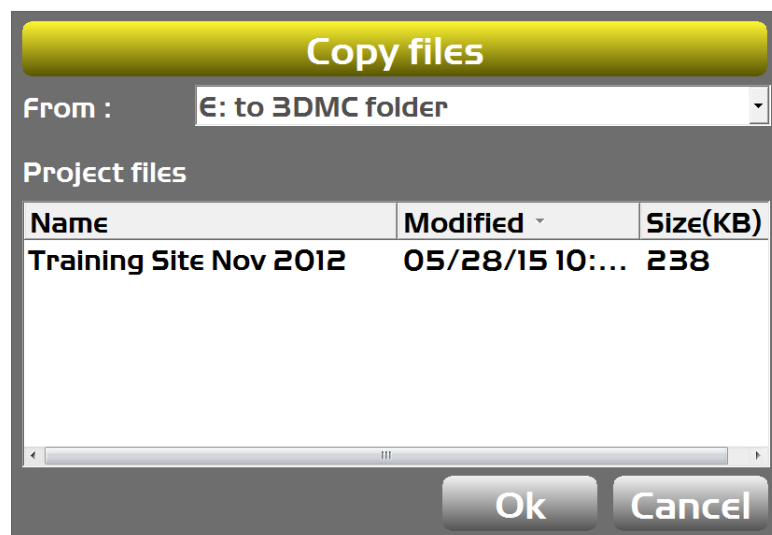

Figure 17: Select a File to Import
4. From the **Copy files** screen, select [drive letter]: to 3DMC folder in the **From** drop-down list (Figure 17).